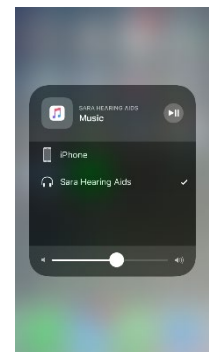

Figure 51.
**Note:** The source may be changed from this screen by tapping on the audio button (Figure 51).